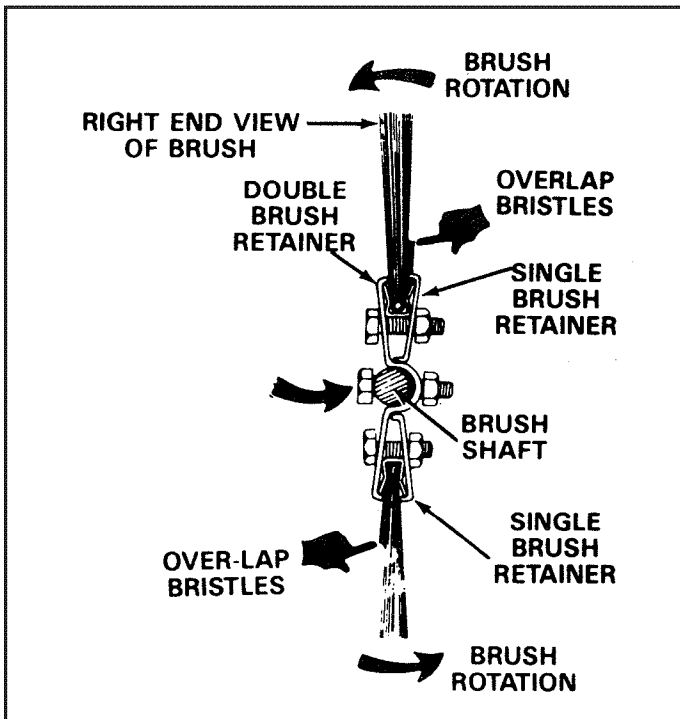

FIGURE 13
4. Loosen hex bolts and hex lock nuts from single brush retainers. See figure 13. Slide brush out of retainers, making note of over-lap bristles position.
5. Install new brush, making sure over-lap bristles are positioned the same as before and as shown in figure 13.